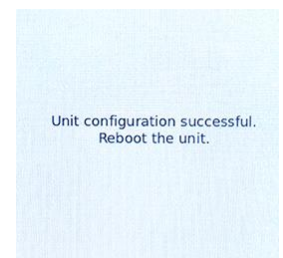

Figure 21
- l) The controller displays "Unit configuration successful. Reboot the unit." (see Figure 21). Power cycle the cabinet by switching OFF the power switch for five (5) seconds and switching back on.